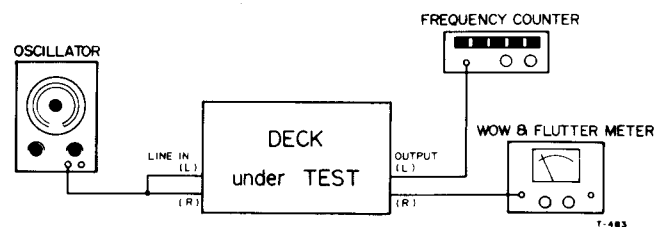

Fig. 2-14
1. Connect the test equipment to the deck as shown in Fig. 2-14.